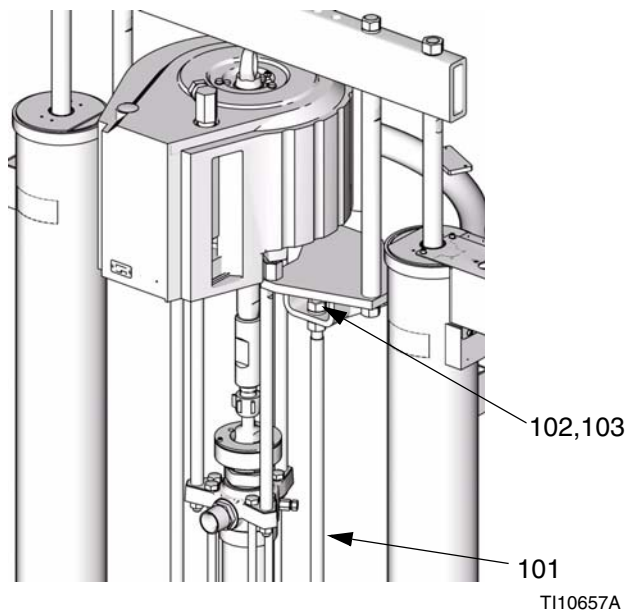

FIG. 22
1. Remove nuts and washers (102, 103) from top of platen lift rods (101). See FIG. 22.
Do not remove or adjust the nuts (102) below the brackets. See FIG. 22. If the nuts are adjusted the pump will not fully engage with the platen or the smaller distance will put stress on the motor, tie rods, and displacement pump.
4. Tighten nuts (103) and washers (102) to top of platen lift rods (101). See FIG. 22.